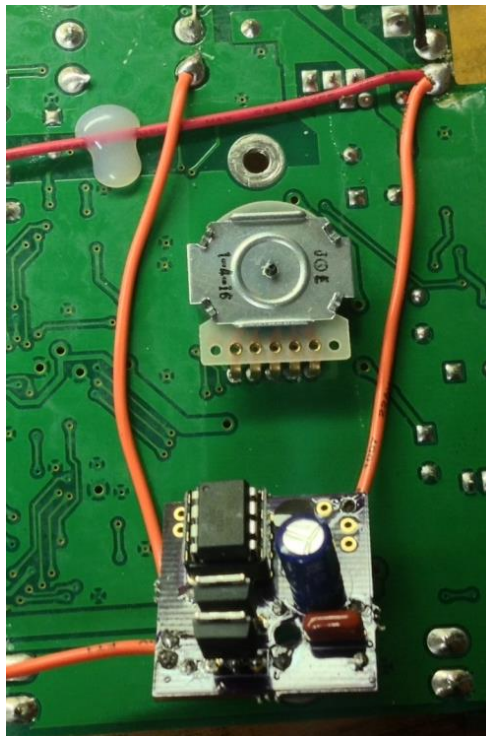

Figure 6.5
5. Connect a wire from the positive (red) battery terminal on the backside of the DL4 PCB to the pad on the SS PCB labeled "9V". (Figure 6.5)